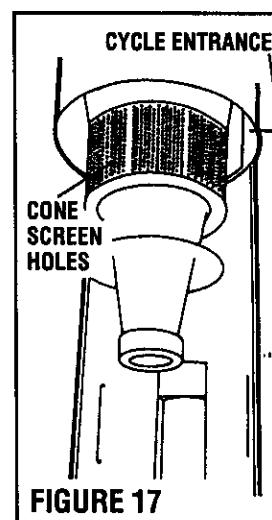

FIGURE 17
- Remove any dirt or lint that may have accumulated at the entrance to the outer cyclone. (Figure 17)
- Clear the Screen Holes on the Cone of any dirt or lint that may have accumulated. (Figure 17)
- a) Check the Cyclone Entrance to ensure it is clean. (Figure 17, page 7)